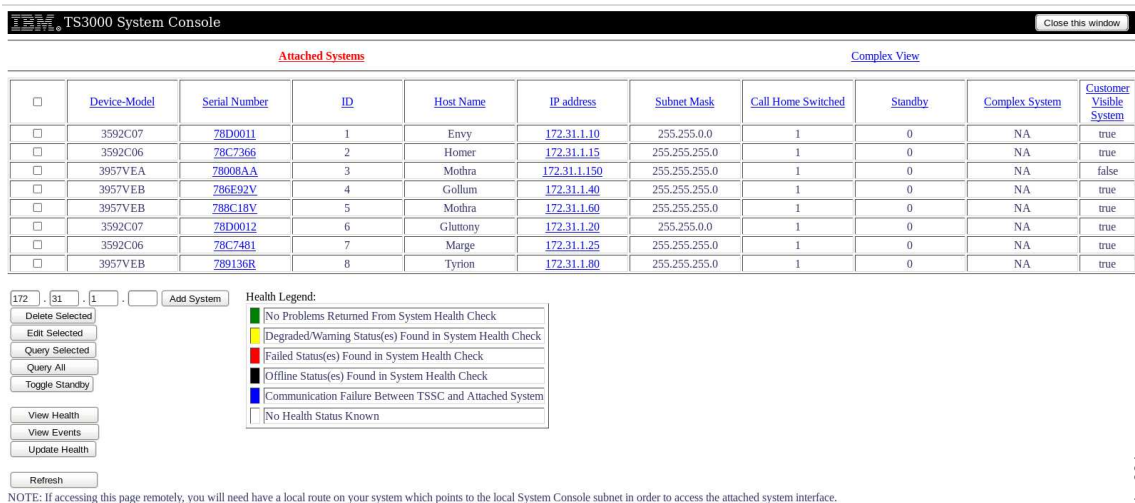

Figure 66. Add System Screen
4. Click **Attached Systems**. You see the screen that is shown in Figure 66 on page 54.
- Click **Attached Systems**. You see the screen shown in Figure 66